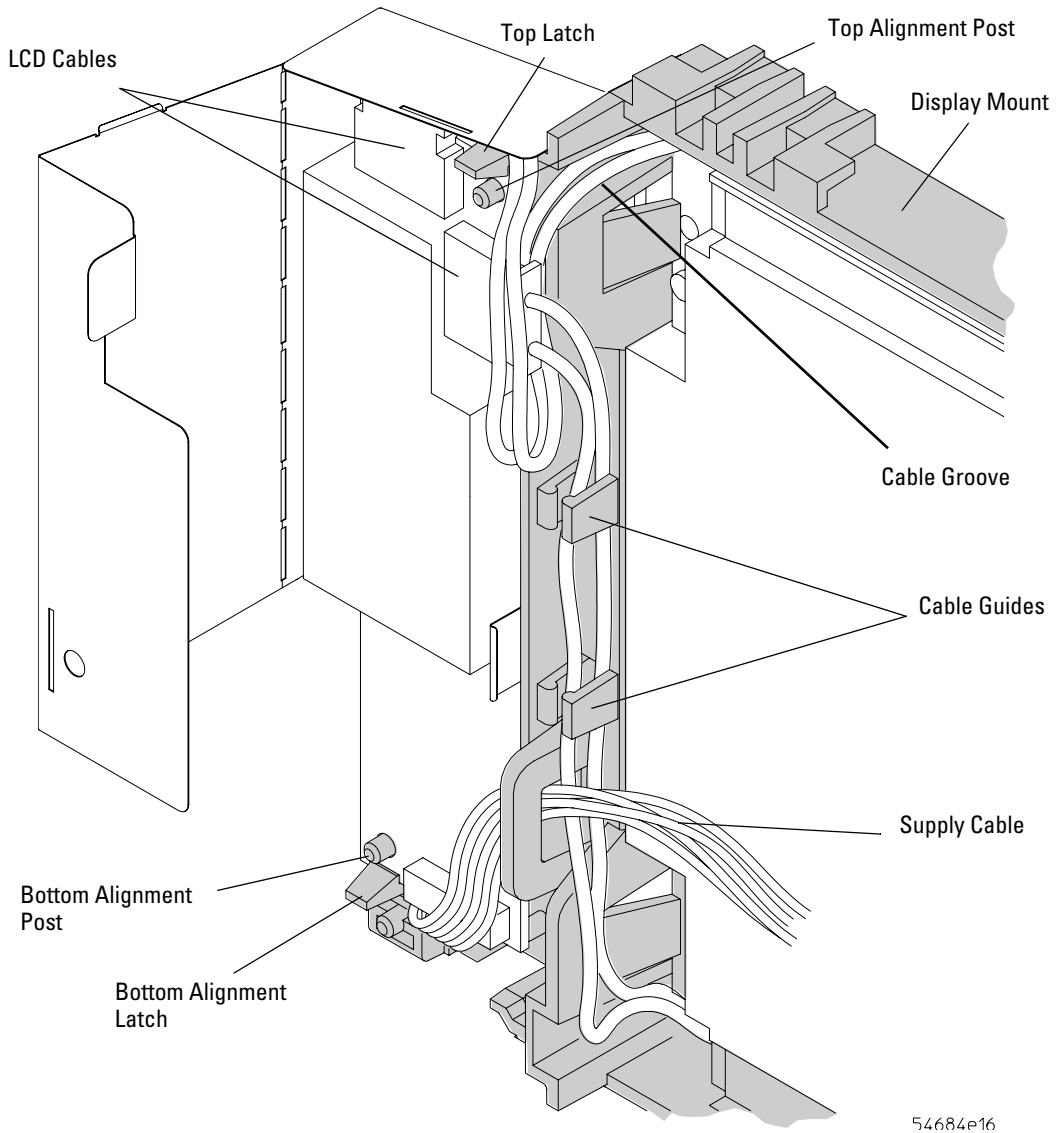

Figure 28 Removing the backlight inverter
- b Reconnect the LCD cables looping them around each other and through the cable guides as shown in Figure 28.
- d Align the holes in the inverter board with the posts on the display mount and push down until the latches snap over the board (refer to Figure 28).